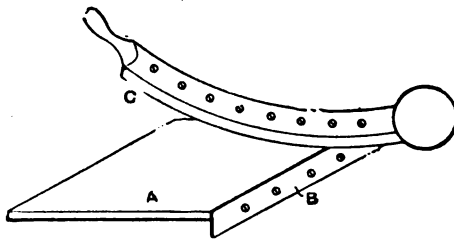

FIG. 1
**Working Spindle Moulding Machine.**—Fig. 1, which shows the table of a spindle machine fitted with cutters for working circular sash bars, illustrates the usual method of keeping similar circular work up to the cutter by means of a curved spring. This is adjusted by a set screw in the slotted spindle which carries the spring, and is itself locked in position by a nut under the table. The work is thus kept tightly up to a fence or collar fitting on the spindle, and fixed between the two cutters by means of the lock-nut shown on the end of the spindle. These circular fences may be placed either above or below the cutters as the section of the work may determine, and in the case of irregular mouldings a shaped wooden templet is usually fitted to them, and the work pressed up to the templet. The adjustment
**Appliance for Cutting Strawboards.**—One machine for cutting strawboards or cardboards consists of a wood or iron table A (see Fig. 1) resting on a framework and four legs. On the table are gauges, which can be so adjusted that the operator can cut the boards to any size required. Close to the edge of the table is a clamp to hold the boards in position while being cut. This clamp is worked by the foot, a treadle being provided at the bottom of the legs, near the floor. The boards are cut between two knives, one, B, being screwed flush to the edge of the table, and the other, C, being movable and screwed to the lever. The edges of the knives are bevelled like scissor blades; in fact, the machine is simply a large pair of scissors. A balance weight at the end of the movable arm carries the knife and keeps it in position. Both of the knives should be made of steel, and in tempering them avoid getting them too hard, or they will be liable to chip. Fig. 2 represents the gauge D on top of the table. This gauge is simply an L-shaped piece of metal; the shorter branch of the L is bent to lie close to the edge of the table. A slot almost the entire length of the gauge is cut in the latter. A thumbscrew screws into the edge of the table and fastens the gauge in position. The other portion of the gauge lies flat on the table. The clamp is a light casting shaped like Fig. 3. It is fitted to the table close up to the knife B, Fig. 1. A short rod is fixed at one end of the clamp and a longer rod at the other end, ending in a stirrup for the foot. These rods are fitted with springs which raise the clamp and hold it up until the foot is placed in the stirrup. A little pressure on the stirrup brings down the clamp and holds the board while it is being cut. The